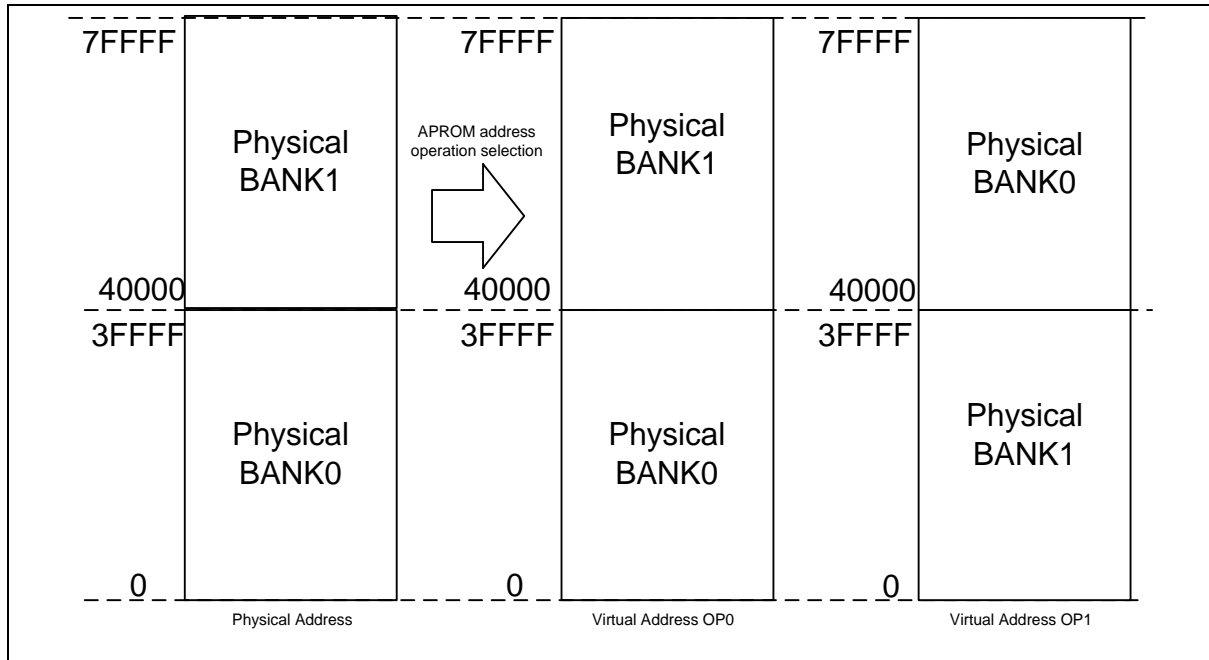

Figure 6.6-3 Address Operation Model
- From CPU viewpoint, virtual address concept is adopted. APROM memory space is separated into 2 segments (banks). As runtime stage, the virtual address depends on what address operation model (OP0, OP1) is, as shown in Figure 6.6-3.